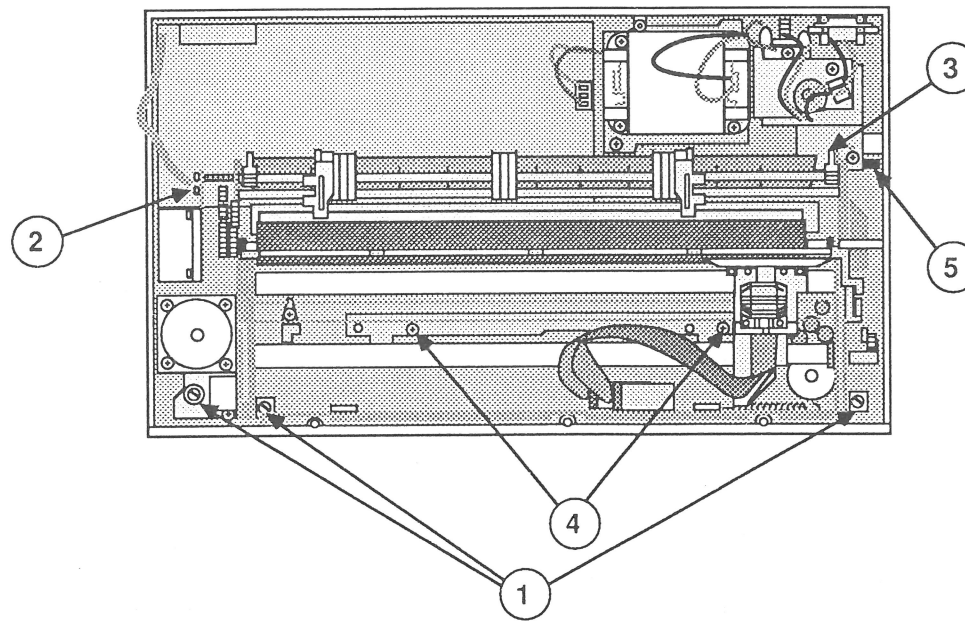

FIGURE 48
6. Loosen, but do not remove, the three screws that secures the mechanical assembly to the bottom cover (Figure 48, #1).
7. Remove the Phillips screw (Figure 48, #2) that secures the ground braid to the rear of the mechanical assembly.
8. Remove the Phillips screw (Figure 48, #3) that attaches the power supply bracket to the rear of the mechanical assembly.
9. Remove the two Phillips screws that secure the fixer bar to the mechanical assembly, if present (Figure 48, #4).
10. Open the cable clamp (Figure 48, #5) at the right rear side of the printer, and remove the cables from the clamp.